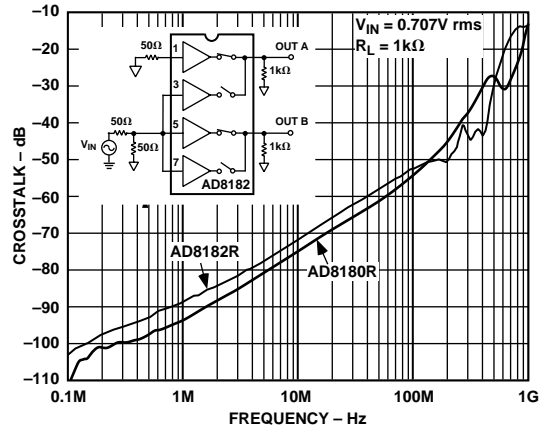

Figure 13. All-Hostile Crosstalk vs. Frequency
- ⁶Select input which is not being driven (i.e., if SELECT is Logic 1, input activated is IN1); drive all other inputs with V_{IN} = 0.707 V rms and monitor output at f = 5 and 30 MHz. R_L = 1 kΩ (see Figure 13).